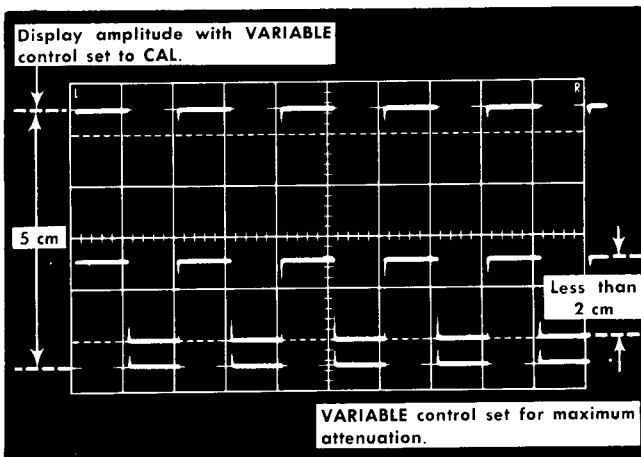

Fig. 7-19. Typical CRT display showing VARIABLE (V/CM) control range (double exposure photograph). Sweep rate is 0.5 ms/cm.
- e. CHECK—Slowly rotate the Channel 1 VARIABLE control to its fully counterclockwise position but not into the CAL detent position. Check for smooth electrical operation and that the amplitude is reduced to 2 cm or less (see Fig. 7-19). This indicates the ratio is 2.5:1 or more.